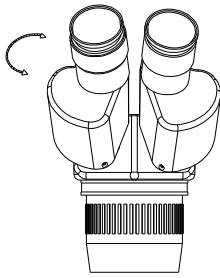

Figure 4
- 1) Adjust the two eyepieces along the direction of the arrow shown in Figure 4 until eyepiece feels comfortable and a single image is seen.